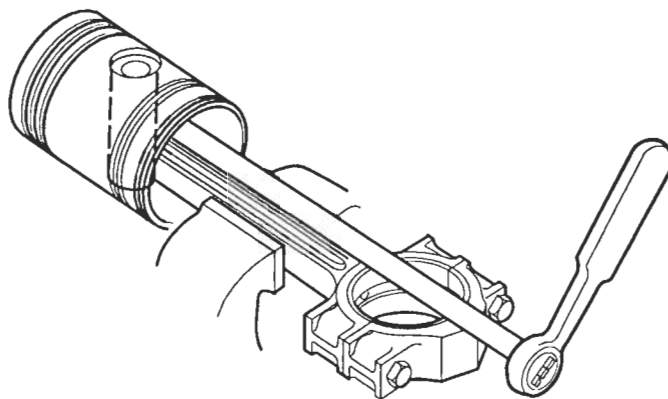

Figure 17. Tightening Connecting Rod to Piston Pin Bolts
9. Install and tighten the bolts finger tight. Then, clamp the connecting rod in a vise and tighten the bolts to 55–60 lb·ft (75–81 N·m) torque (Figure 17.) Do not exceed this torque.